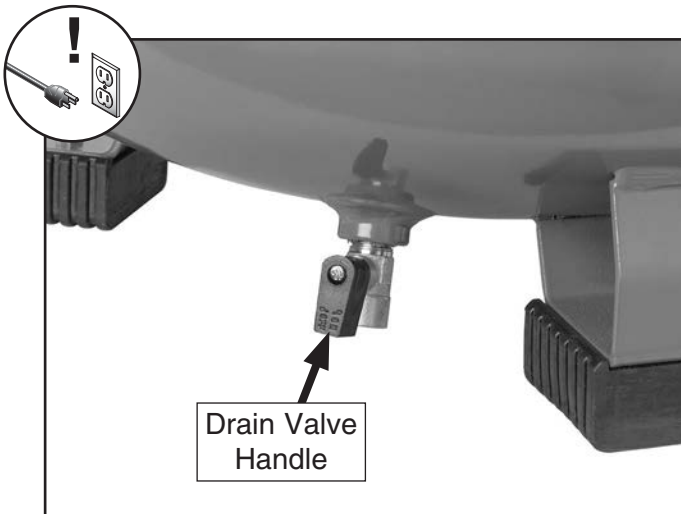

Figure 23. Drain valve handle open.
3. Open drain valve (see **Figure 23**) to drain condensation from tank.